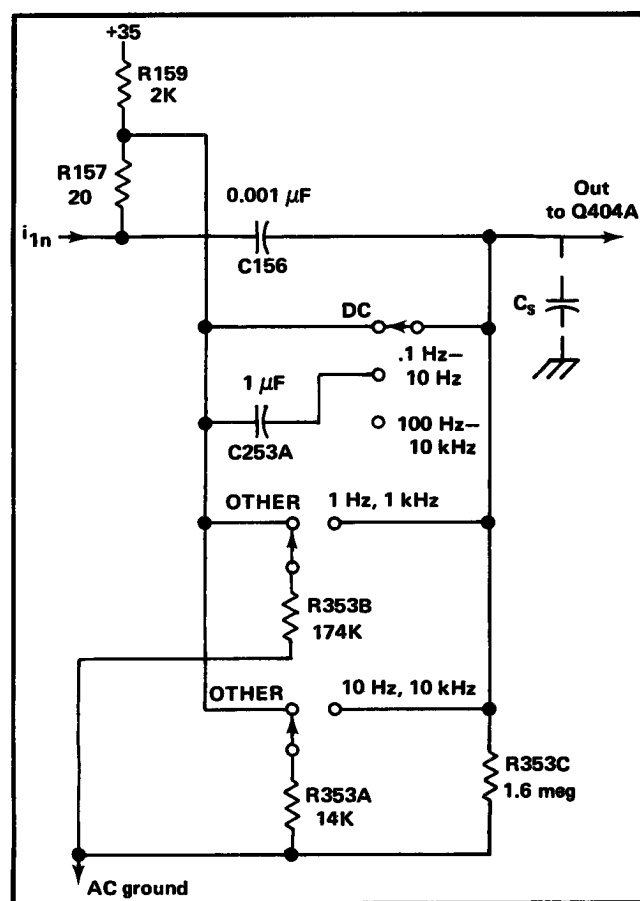

Fig. 3-11. Partial Low Frequency —3 dB Point selector for + Input amplifier.
**LF — 3 dB POINT Selector.** This switch selects the low frequency —3 dB point of the amplifier and has a range of 0.1 Hz to 10 kHz in decade steps. Selection is done by switching the resistor and capacitor of a pair of capacitor couplings in each leg of the amplifier. Fig. 3-11 shows half of the selector, with the switch split up into its functional elements.